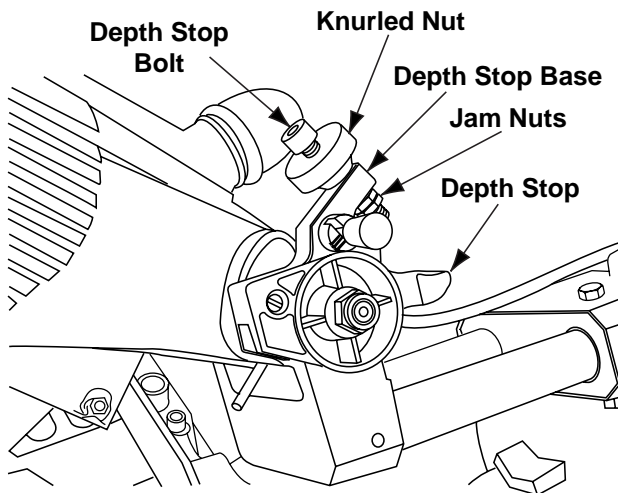

Figure 32. Cutting Grooves
1. Set the depth of cut by loosening the knurled nut on the depth adjustment bolt (Figure 32). Do not change the position of the two (2) jam nuts on the end of the bolt.